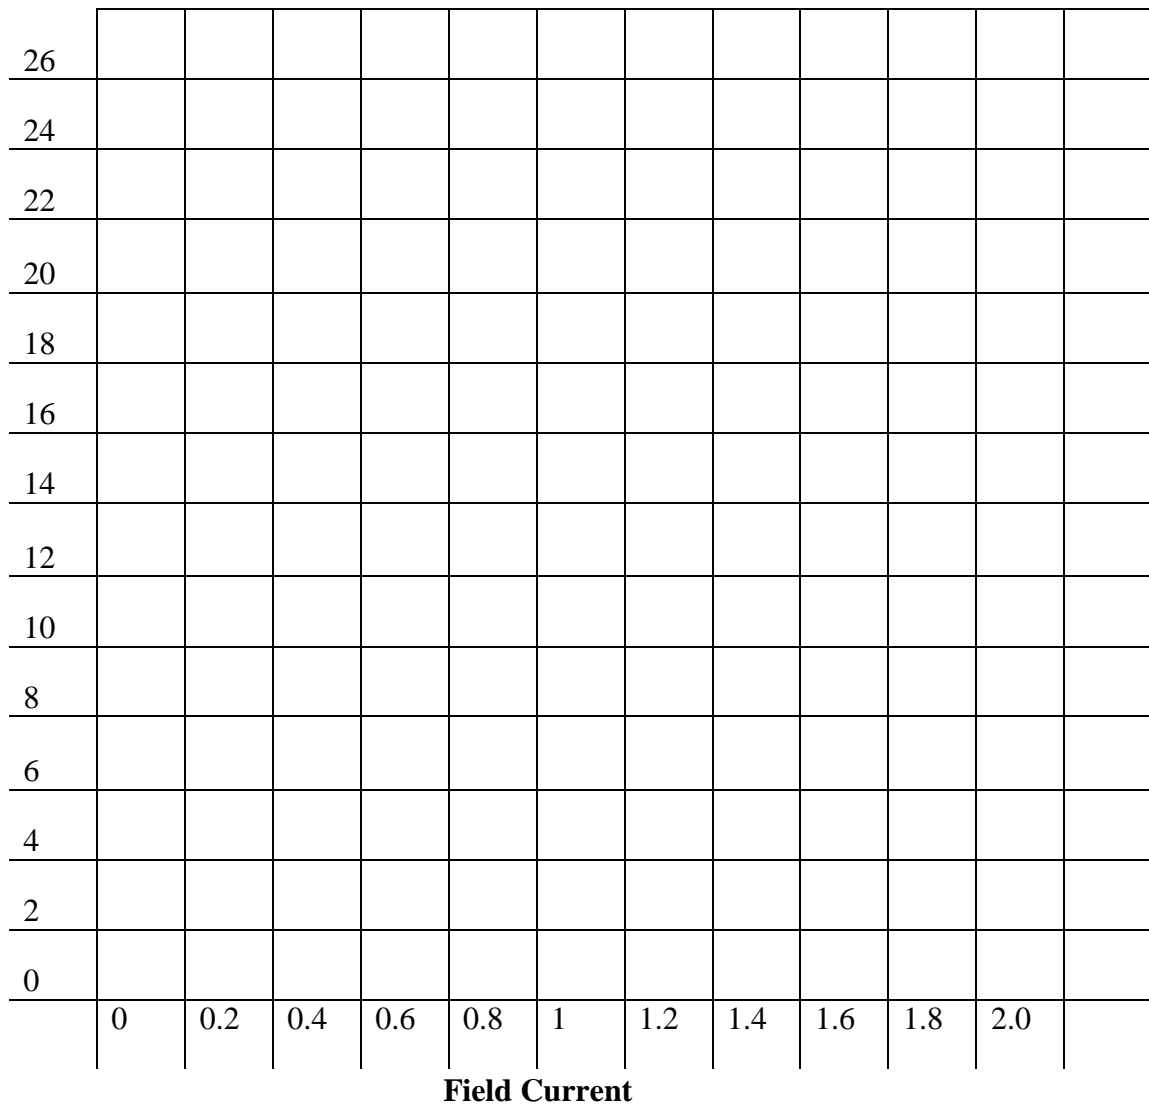

Figure 4
1. using the axis of figure 4, draw the no-load characteristics of the generator at both 1400rpm and 700rpm.